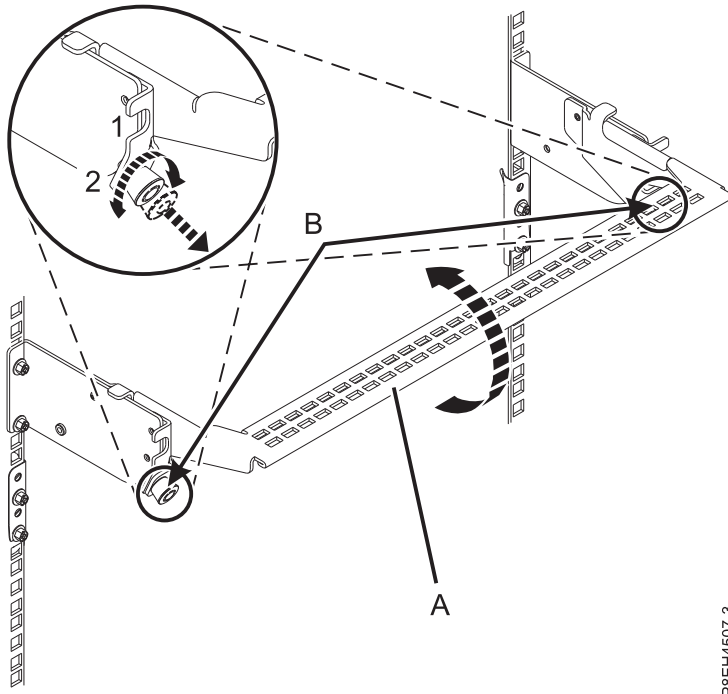

Figure 48. Placing the cable management bracket in the service position
8. At the rear of the EMX0 PCIe3 expansion drawer, put the cable management bracket in the service position. See Figure 48 on page 44.